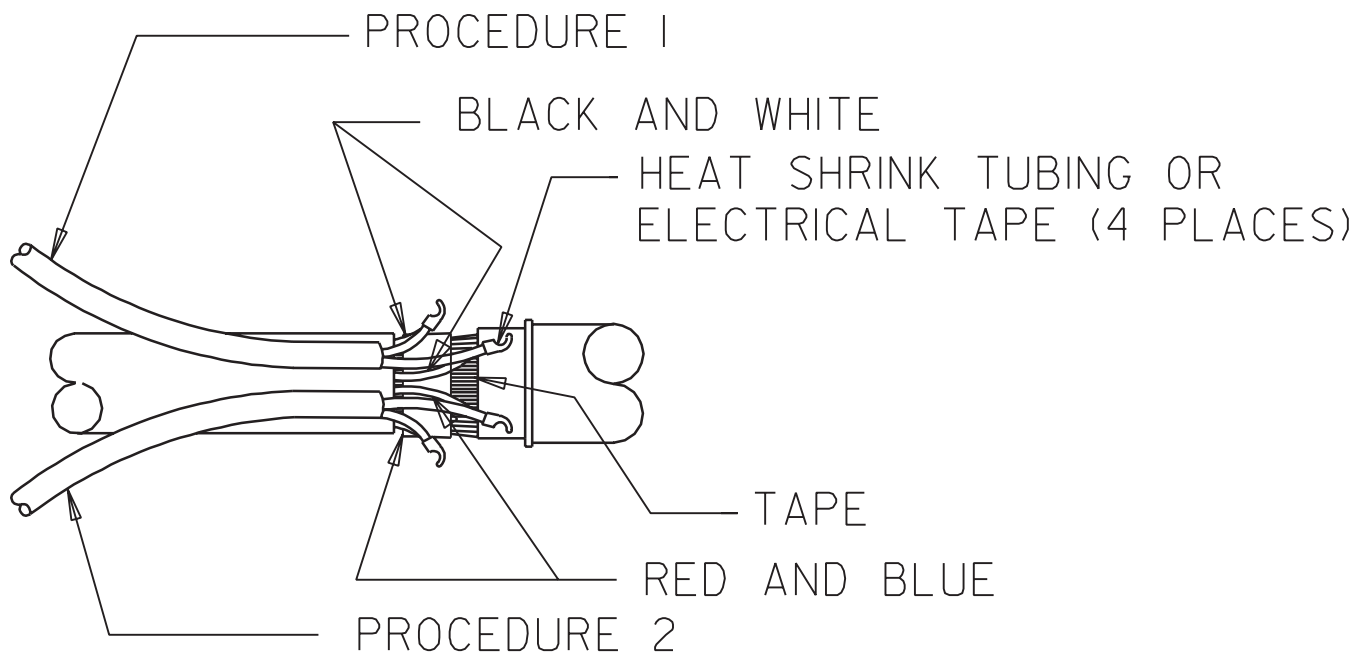

Figure E.7
**For K574** the control cable for PROCEDURE 1 should be soldered to the black and white leads. (See Figure E.7).